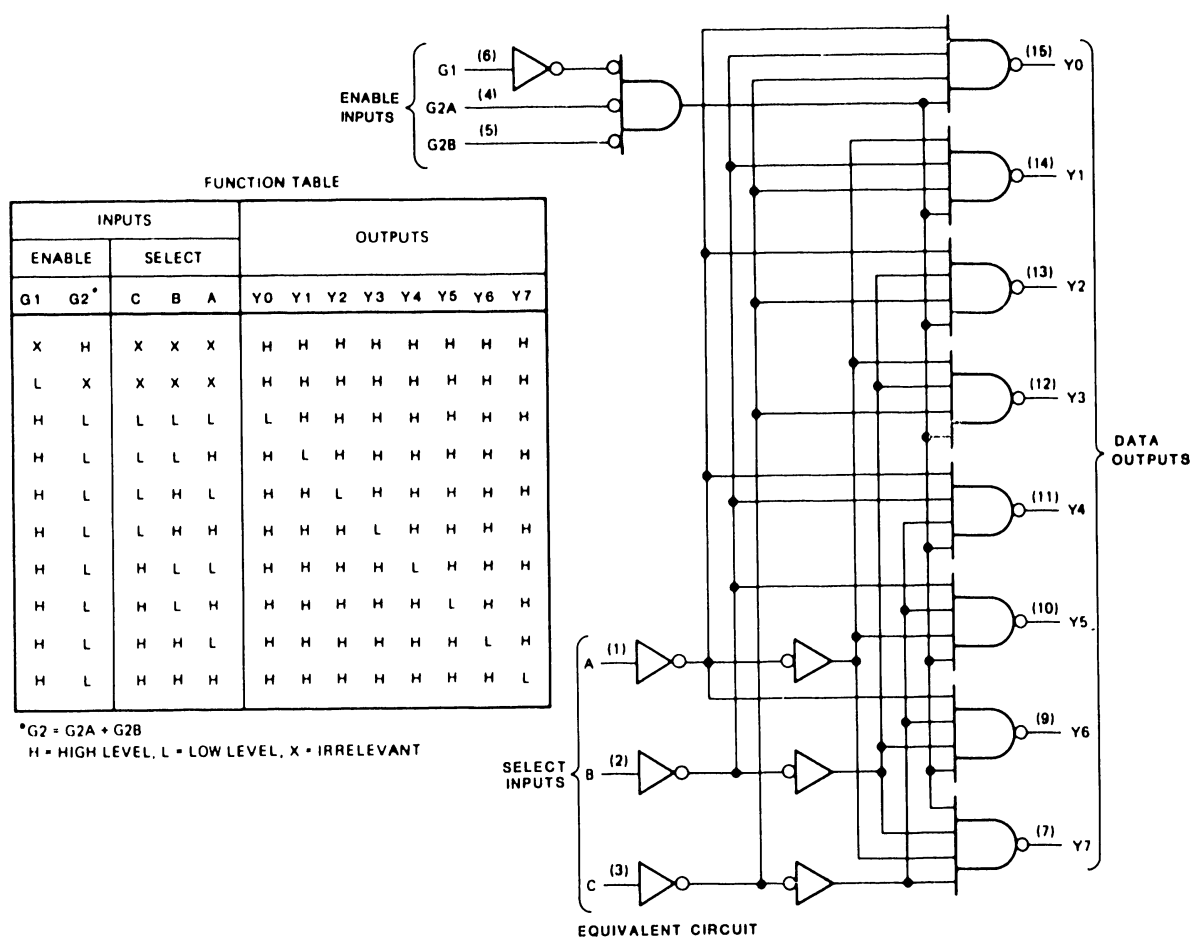

Figure 2-15. Interface Device Enable Decoder (74LS138)
A function table and loading diagram are provided in **figure 2-15** to help understand the operation of the decoder. **Table 2-6** lists the output signals of U29 and their functions.
(2) Control Group 3 - Signal ECG3* enables one (1) output from either U28 (SH 7) on the Interface CCA or U45 (SH 36) on the Timing and Status CCA. Each active output is in a low logical state. Table 2-8 lists the Address Bus line signals, the functions, and the output signal conditions which are controlled by Control Group 3. See figure 2-15 for a function table and loading diagram for the U28 and U45 decoders' operation.